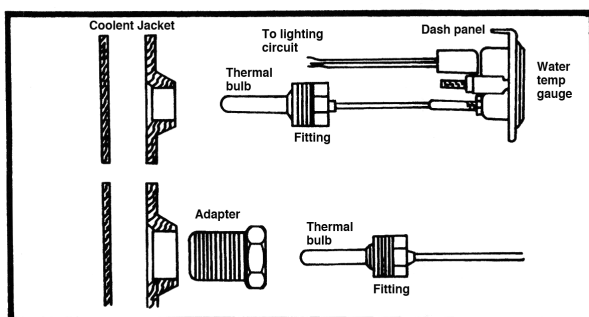

Figure 4
2. Locate suitable opening in the engine block to reach the cooling system water or locate a water temperature sender already installed. Insert thermal bulb into the hole and screw fitting on tube into the hole until thermal bulb is held securely in place, as shown in Fig 4.